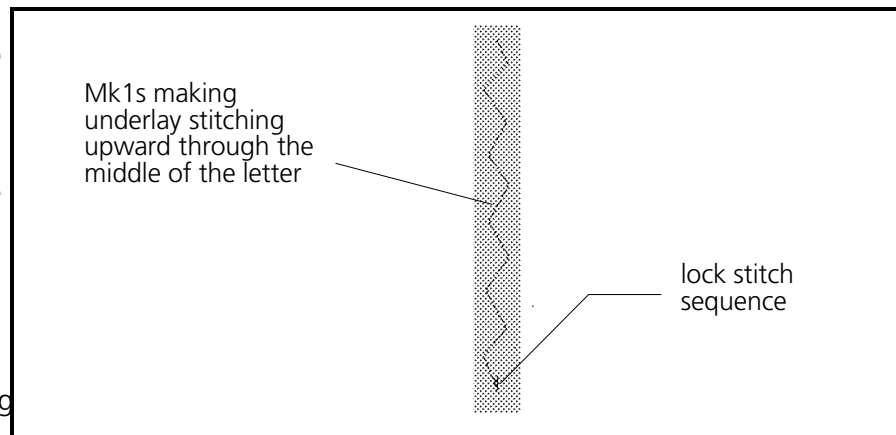

Figure 3-20
1. From the information previously learned, perform a needle up, go to the bottom portion of the letter **I**, and then put the needle back to normal stitch (see Figure 3-20).
the length of the letter **I** by entering Mk1s before we begin our column stitching (see Figure 3-20).